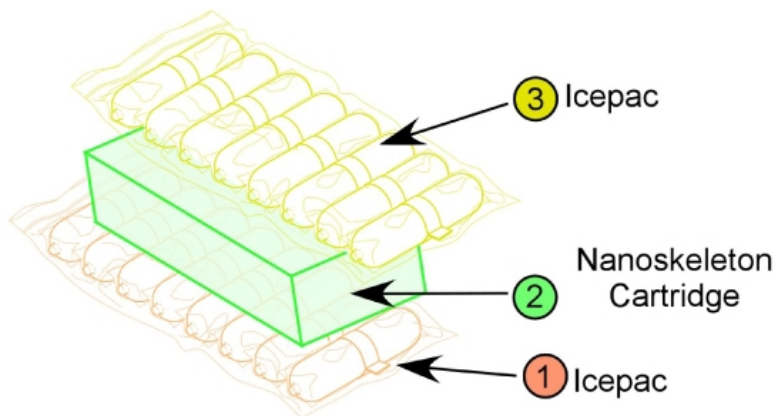

Figure 2. Double Coldbag Configuration.
- 4.2 Remove Nanoskeleton Cartridge from Glacier Tray A and pack in Double Coldbag per Figure 2, close lid.